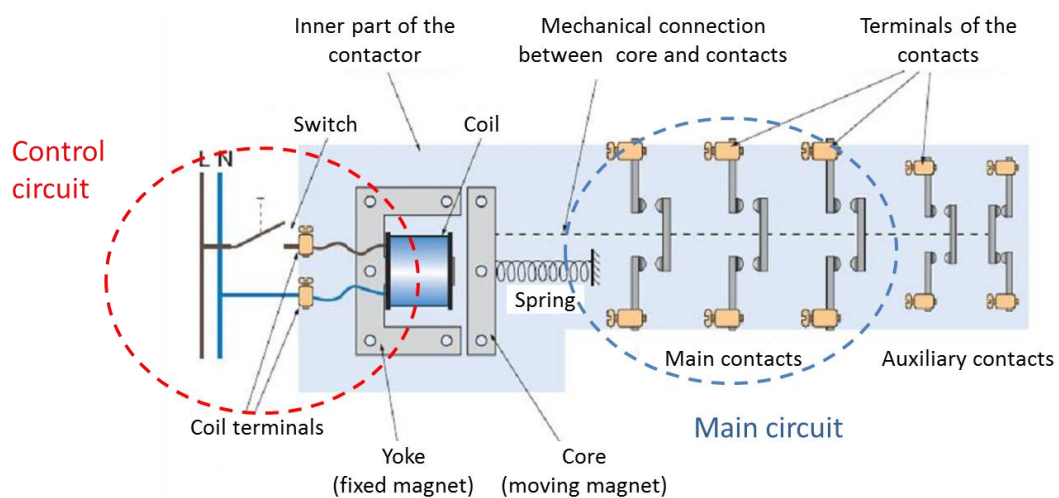

Figure 1. Main elements of a contactor (Source: [6])
- **Main circuit:** is the circuit that the contactor opens/closes by means of its main contacts. In Figure 1, it would be a three-phase circuit.
1) The *Normally Opened contacts (NO)* that behave as the main contacts of the contactor (i.e. if the main contacts open, they open and vice-versa).
2) The *Normally Closed contacts (NC)* that behave inversely (i.e. if the main contacts open, they close and vice-versa).